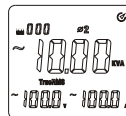

Figure 9-3
- As shown in Figure 9-3, please press SELECT key to select the 2nd phase location. It also can display active power, voltage and current of phase location of $\phi 2$.